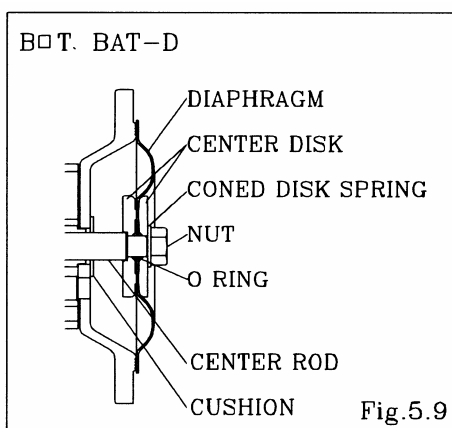

Fig.5.9
- Keep the convex side to the outside (cf. Fig.5.9).
- Put the O rings to both sides of the diaphragm. (cf. Fig.5.9).